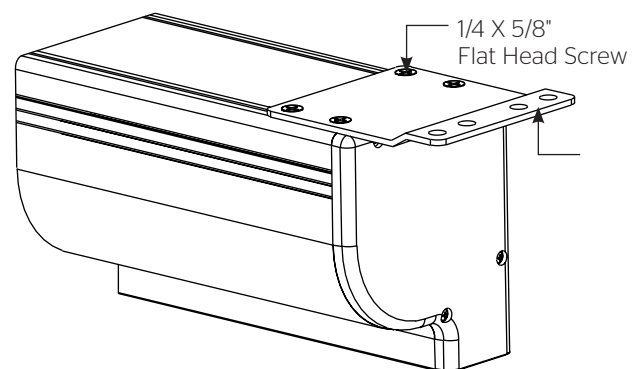

Figure 3
2. Using a #2 Phillips screwdriver, loosen the four 1/4"x 5/8" screws holding the ceiling flush mount brackets (Figure 3).
4. Tighten the four 1/4"x 5/8" screws holding the ceiling flush mount brackets (Figure 3).
2. Remove the ceiling flush mount brackets using a #2 Phillips screwdriver. See Figure 3. Retain four 1/4"x 5/8" screws.